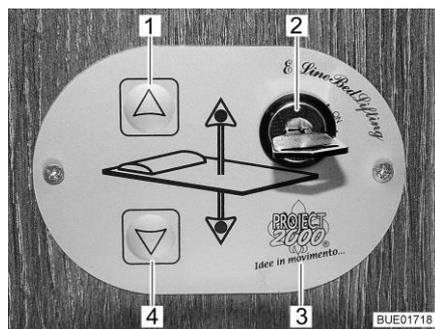
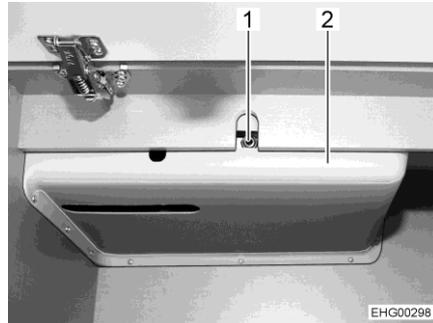

Fig. 148 Control unit
Fig. 152 Access to drive
The pull-down bed is raised or lowered using the buttons (Fig. 148,1 and 4) on the control unit (Fig. 148,3). The control unit is protected against unauthorized use with the key switch (Fig. 148,2).
- Turn the key in the key switch (Fig. 148,2) through 90° clockwise. The control unit (Fig. 148,3) is activated.
- Press the arrow key (Fig. 148,4) and keep it pressed until the pull-down bed has moved down into the desired position.
- Press the arrow key (Fig. 148,1) and keep it pressed until the pull-down bed has moved down into the final upper position.
If it is no longer possible to move the pull-down bed with the arrow keys (Fig. 148,1 and 4), first of all check the fuse behind the panelling (Fig. 152,2) (see section 9.12.1). If the fuse is okay and it is still not possible to move the pull-down bed, operate the pull-down bed manually.
- Insert the crank provided or an Allen wrench into the accommodation on the motor (Fig. 152,1).